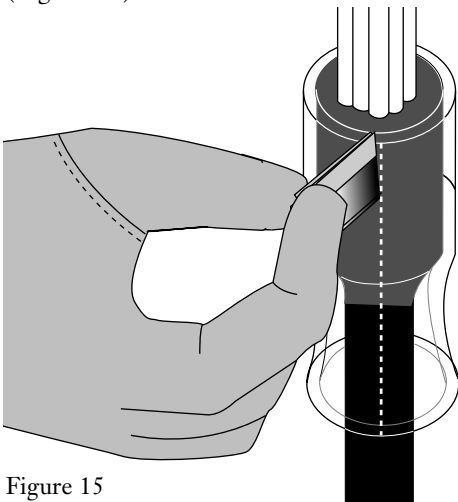

Figure 15
6.11 Slice completely through and down one side of the vinyl tube with a razor blade. Do not cut the cable sheath (Figure 15).